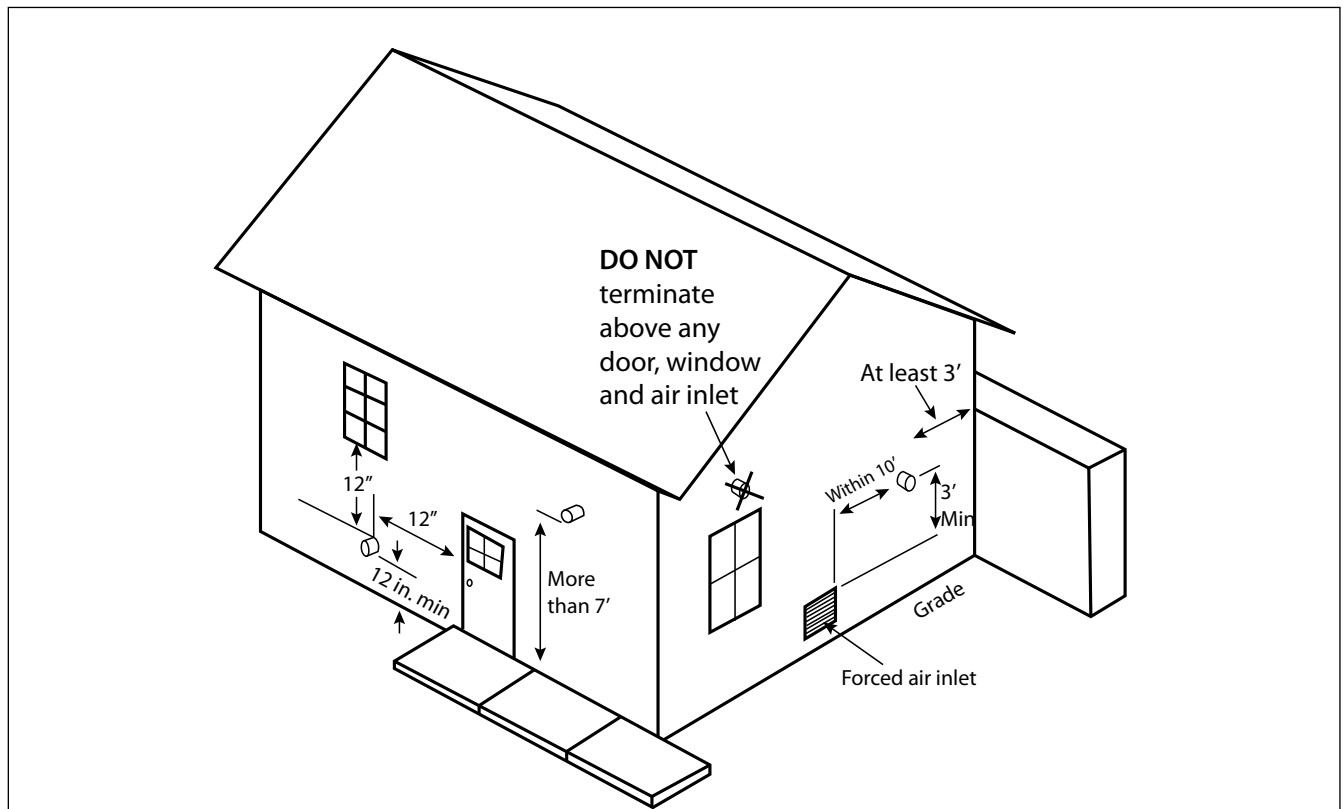

Fig. 2 - Termination Clearances of Direct Vent System
6. The vent termination must also maintain the following clearances, as shown in *Fig. 2 on page 13*:
6. The vent termination must also maintain the following clearances; as shown in **Fig. 2 on page 13**.